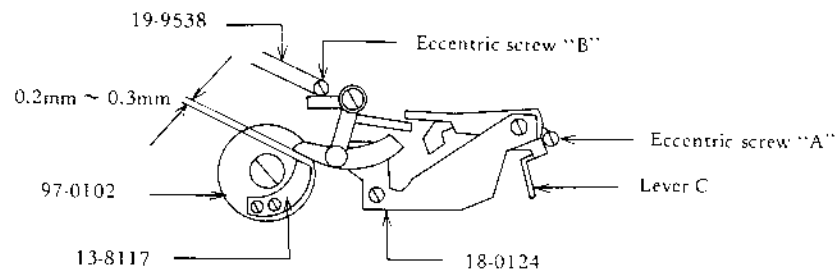

Fig. 21
- 3) Install Slow Shutter Pawl (13-8117) with it away from Slow Shutter Governor (18-0124) by 0.2 ~ 0.3mm. See Fig. 21.